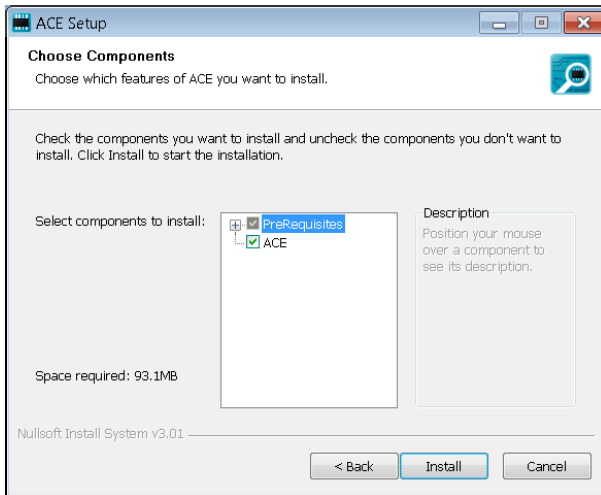

Figure 6. Choose Components
7. The components to install are preselected (see Figure 6). Click **Install**.